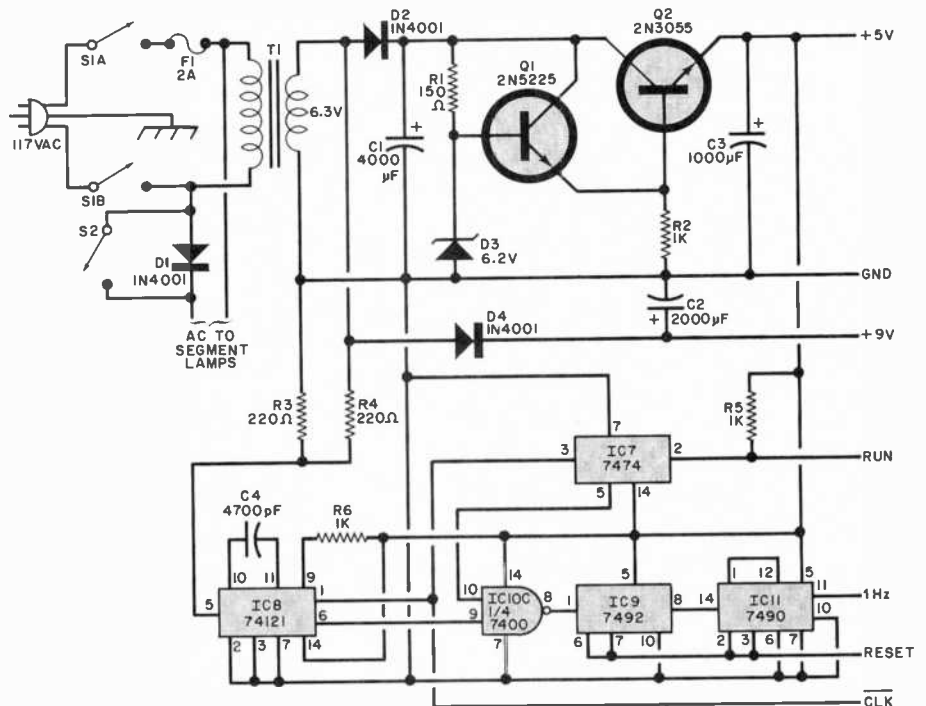

Fig. 3. Regulated 5-volt supply is used for TTL. The 60-Hz is counted down to produce 1-Hz clock pulse for timing.
**Power Supply and Clock.** The system requires two power supplies (Fig. 3). One, using a two-transistor regulator, provides +5 volts for the logic. The other is a simple rectifier (D4) and filter (C2) circuit to provide 9 volts for the segment relays.